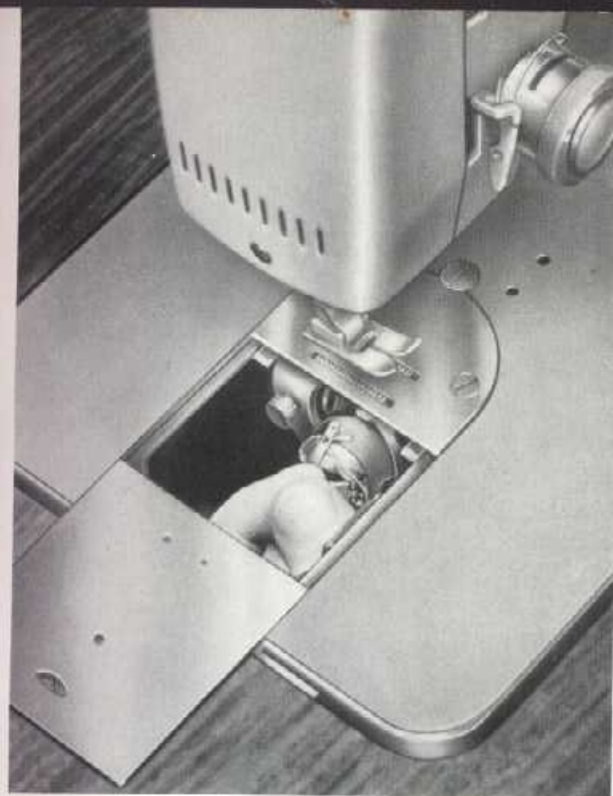

Fig. 24
- Lift latch of bobbin case (Fig. 24) with thumb and forefinger of left hand, and remove bobbin case by pulling it toward the left and out of the machine.